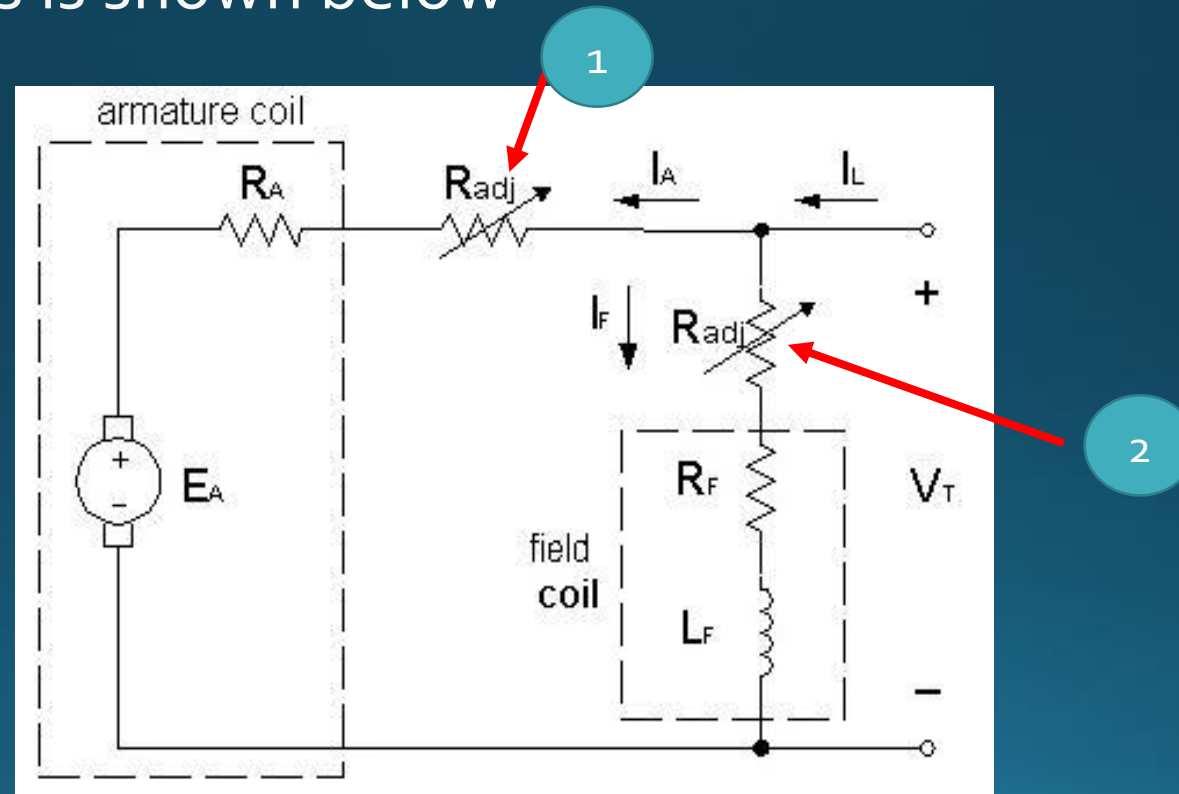

Figure 5
- Figure 5 in the previous slide represents the motor internal model plus two inserted adjustable resistors; 1 in the armature circuit and 2 in the field circuit.
- Now we will connect the circuit in Figure 5 using the components illustrated in the previous slides.